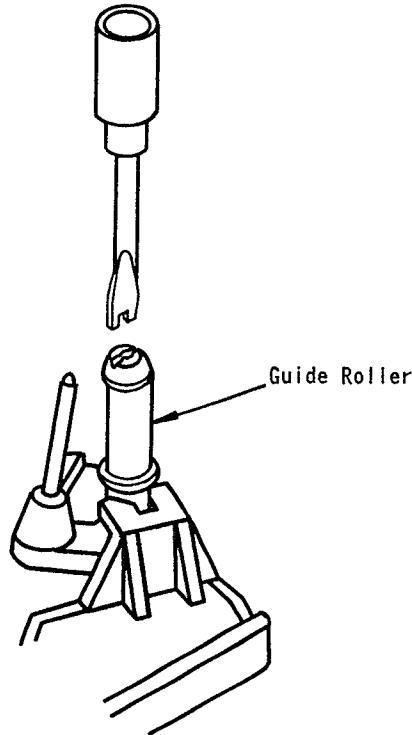

Fig. 5-5
7. Next, adjust the guide roller height. Insert the adjustment driver (FSJ-0001) into the guide roller top (Refer to Fig. 5-5).